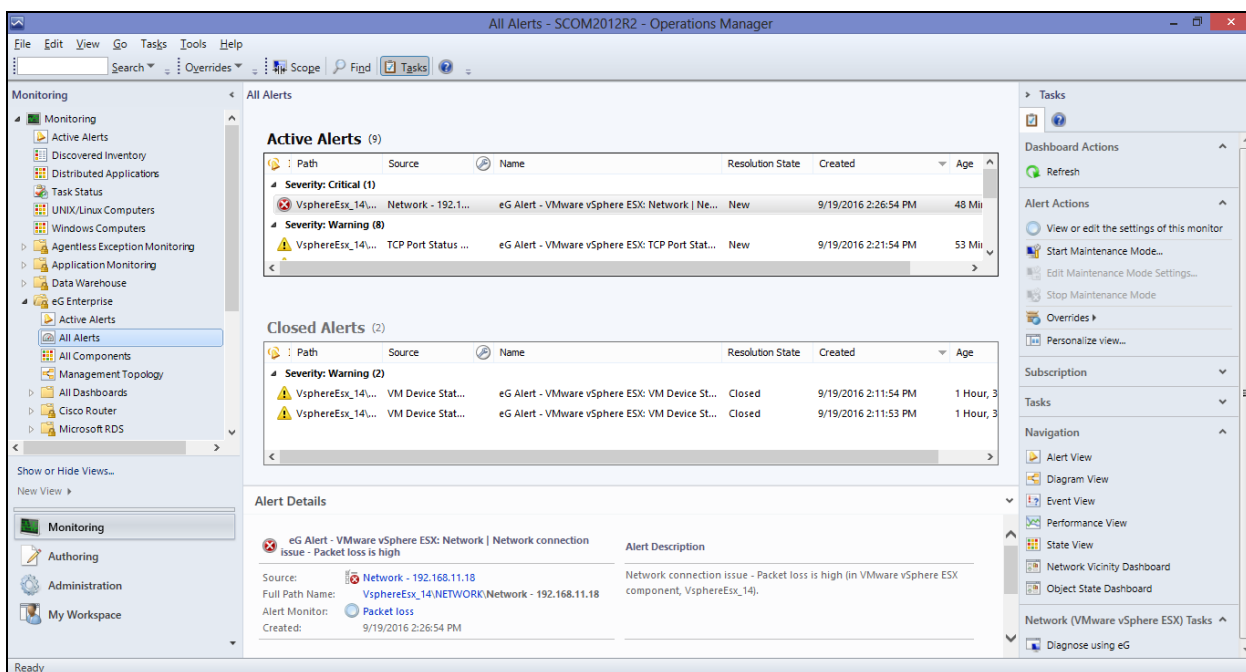

Figure 4.7: The All Alerts view
- The right dashboard panel will then display all alerts that were raised on the eG-managed components (see Figure 4.7). Here again, the alerts will be grouped by severity. Also, like in the **Active Alerts** view, each alert in the **All Alerts** view will display the alert **Path**, **Source**, **Name**, **Resolution State**, **Created** date/time, and **Age**, by default. If one/more problems were resolved, then the **Resolution State** of such alerts will be **Closed**. **Closed Alerts** will be displayed in a separate section in the alerts view. The **Closed Alerts** section will display alerts on the basis of the following criteria: “View all alerts with Closed(255) resolution state”. New alerts will be displayed on the basis of the following criteria: “View all alerts with New(0) resolution state”.